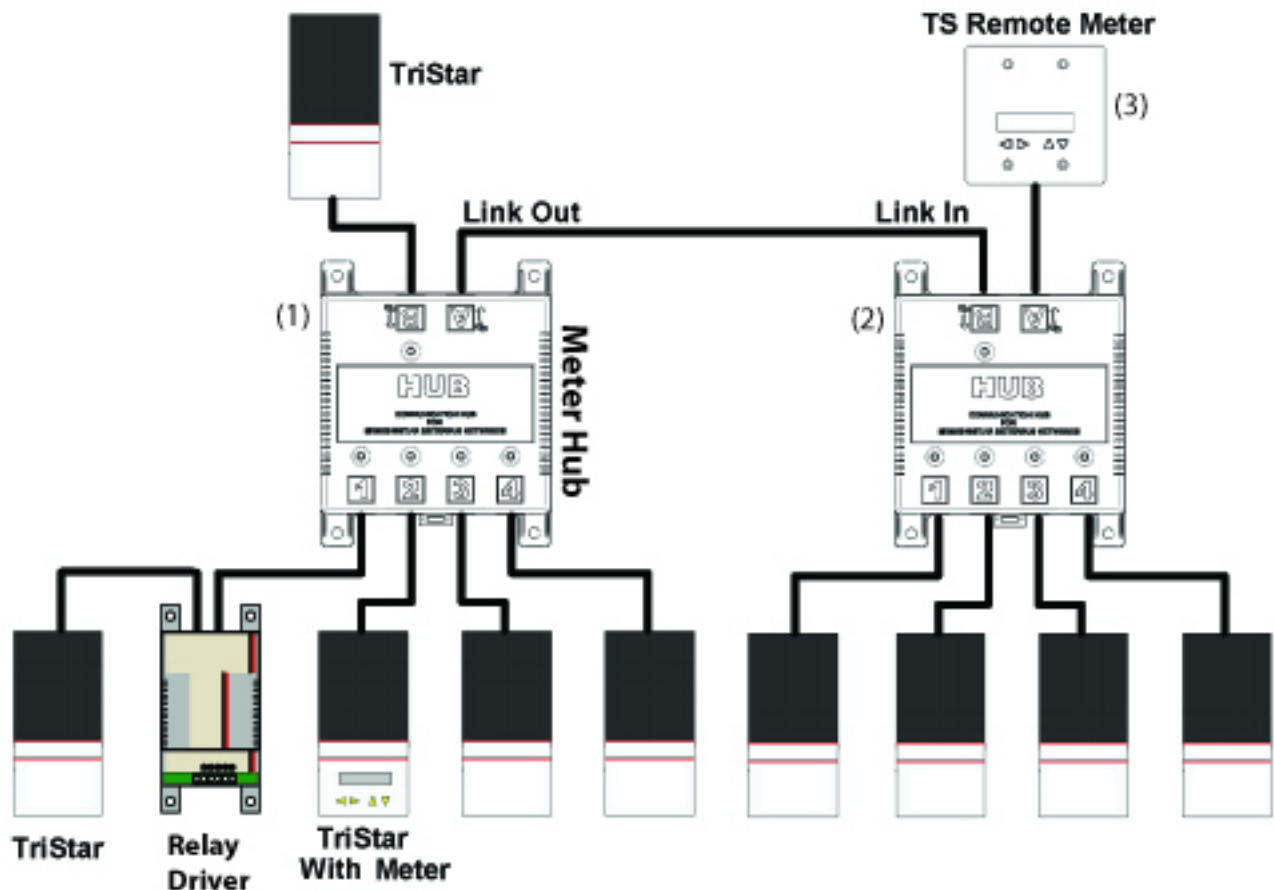

Figure 22. Morningstar MeterBus™ Large, Multiple Hub Network Diagram 1
- A maximum of three devices can be powered off a single device from Column A. The Multiple-Hub diagram in Figure 22 illustrates this.
- To supply power to a device from Column B, you must connect a device from Column A to the device from Column B, and then connect that device (B) to a port on the Meter Hub. Example Network #2 shows how to correctly achieve this.
Figure 22 illustrates a large MeterBus™ network making use of multiple Meter Hubs. The two hubs are linked using the *Link Out / Link In* Ports A & B, respectively. Each hub expands the number of MeterBus™ connections to the network. Notice that the TriStar powering the hubs can only accommodate a maximum of three (labeled 1-3) devices that require power (two hubs and one TS Remote Meter in the diagram below). **Remember:** A maximum of four Hubs may be linked on one MeterBus™ network, accommodating up to 15 MeterBus™ devices. Regardless of how many Hubs are used, all networking rules concerning power management still apply.